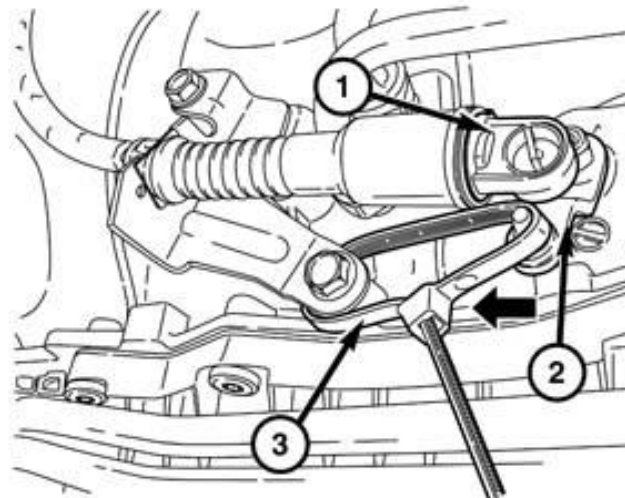

Figure 28 – MPR Cable
54. Rotate the MPR lever (2) forward to engage neutral position and secure it with a suitable zip tie (3) (Figure 28).